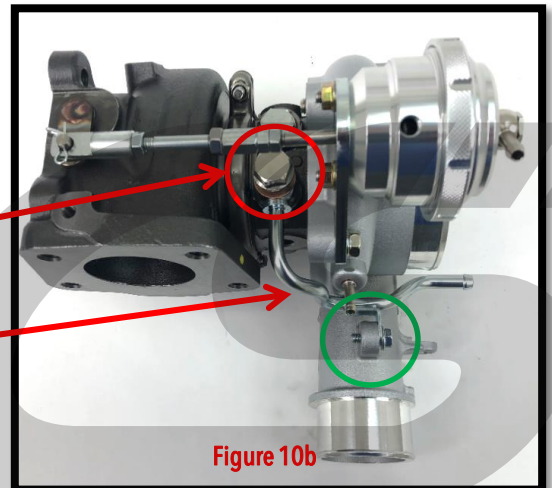

Figure 10b
- Install the provided upper coolant line with the OEM 17mm banjo bolt and new provided copper crush washers and **Torque to 20 ft-lb.** Shown with the **red circle** in **Figure 10b**. Install the M6 10mm flange bolt provided. Shown with the **green circle** in **Figure 10b**. Also shown in **Figure 10c** on next page with a front view of the turbo.